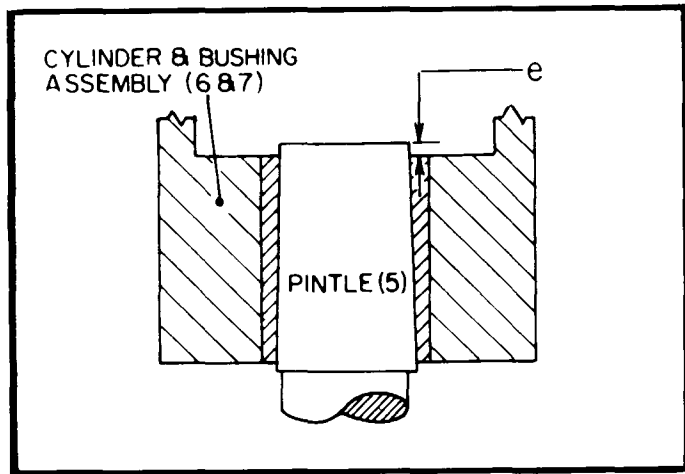

Figure 5. Basic "e" Dimension (Cylinder "tight" Position). (508644)
in a press, open end up. Approximately 100 tons of force is needed to press pintle into case. Apply "Molycoat" to large tapered surface of pintle to provide lubrication during assembly. Locate pintle with key (77). Position a sleeve over small pintle end, against large diameter shoulder. install pintle flush with back of rear case. Cylinder bushing (7) and pintle (5) have a .032" taper per inch of length. Clean pintle and bushing surfaces. Using a crane, suspend cylinder and bushing assembly above pintle, large end of bore down, then slowly lower assembly over pintle until cylinder begins to become tight on pintle. Avoid scraping against edges of pintle ports. Do not rest entire weight of cylinder on pintle as it will become too tight and damage bushing. At this point the pintle should project past cylinder bushing an amount described in "IV" SPECIFICATIONS. See Figure 5. Write down this dimension. This is the "e" dimension— the base figure used in shimming the pump. Remove cylinder from pintle.